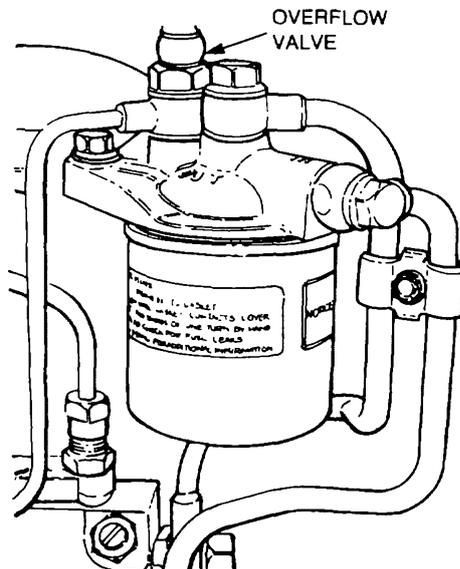

Figure 26 Fuel Filter Draining
- b. Place a suitable container below the filter body; then loosen the overflow valve (Figure 26).